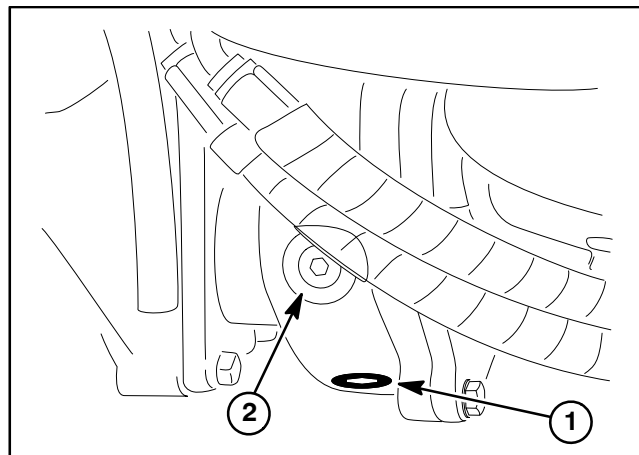
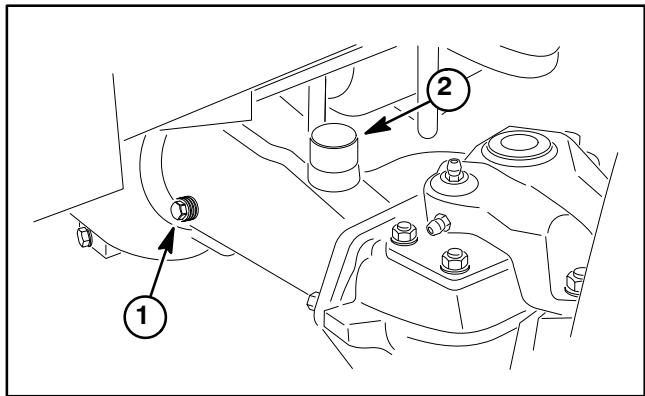

Figure 13
Figure 15
9. Fill rear axle (Fig. 15) and rear axle gearbox (Fig. 13) with SAE 85W-140 weight gear lube. Lubricant capacity is approximately 80 fl. oz. (2.37 liters) for the rear axle and 16 fl. oz. (0.47 liters) for the gearbox.